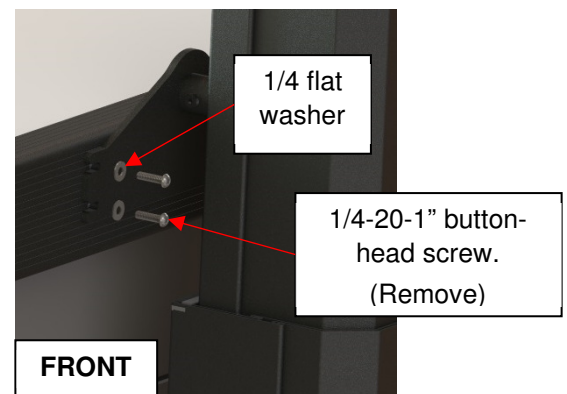
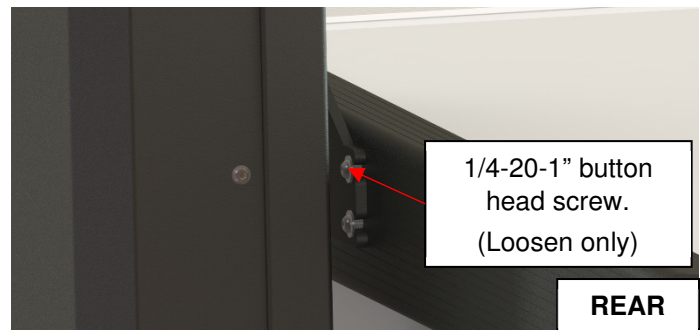

Figure 19
Figure 20
- 2) Remove the two front 1/4-20-1” button-head screws and loosen the rear ones on each side of the cover. (Figure 19 and Figure 20)
- 17) Slide the rear cover's screws back on the pivot arm, tighten them and screw the two front 1/4-20-1" button-head screws with the 1/4" flat washers on each side of the cover. (Figure 19 & Figure 20)